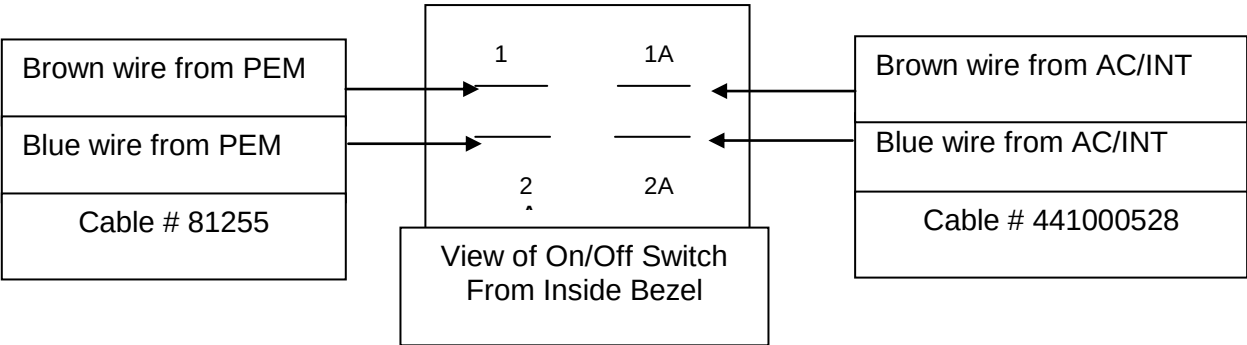

Figure 15b
8.1 Attach the cables from the power module and the AC Harness to the front panel power switch, using tool 119646. (Figure 15b)